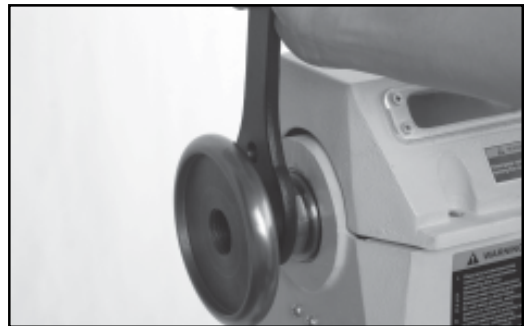

Fig.39
- 8.) Remove spindle lock nut using spanner wrench. (LH Thread) (See Fig.39)